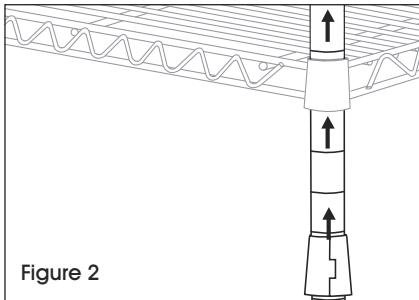

Figure 2
2. Slide posts through underside of shelf until shelf slides firmly over supports. (See Figure 2)